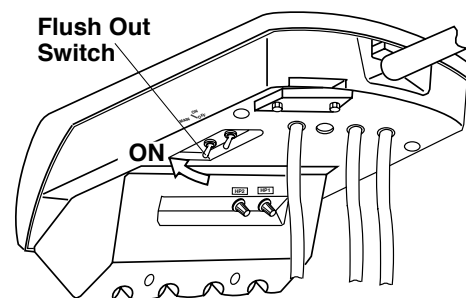

Fig.6-5 Flush Out Switch
(6) Flush Out System (Fig.6-5) (Option)